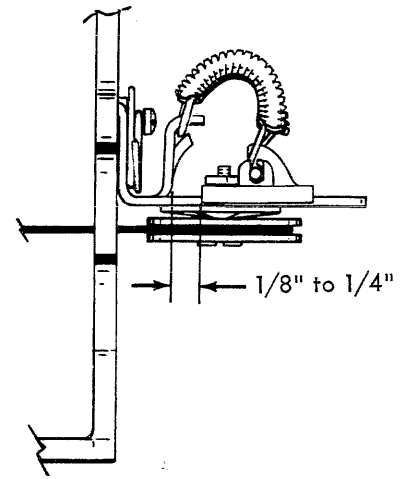

FIGURE 110C. Cord Tension
3. Cord Tension - With the cords properly threaded (Figs. 110 A & B), adjust the carrier return cord drum so that the pulley pivot screw nut clears the pulley bracket by 1/8" to 1/4" (Fig. 110C).